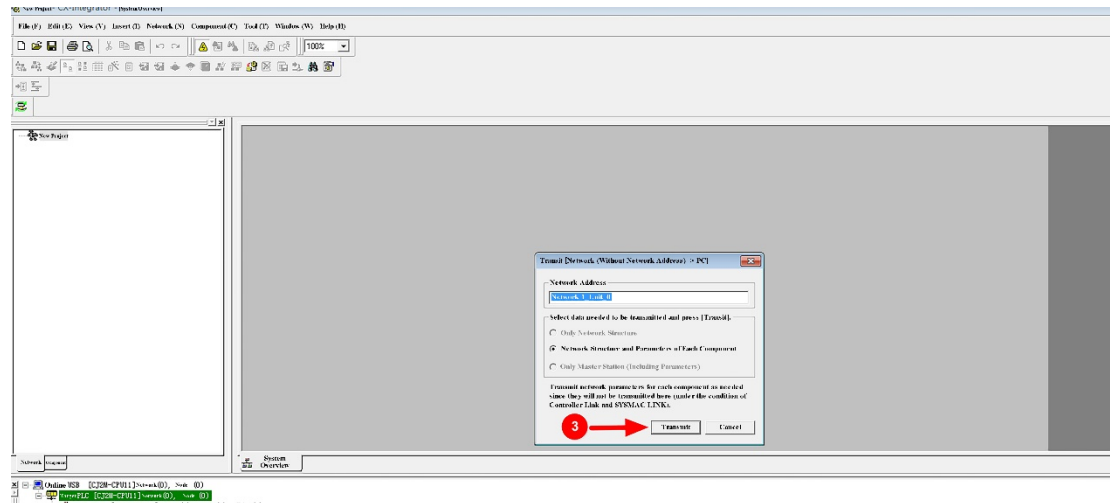

Fig.5-5-5 Automatic Scanning
As for the Auto scanning, Click “Online Working Button”, Double- Click DeviceNet[CJ1W-DRM21] Network (-), Node (1), unit (0), and name the network to confirm the transmission, as shown in Fig.5-5-5. Double click DN-HH00-C0NN, then you can check if OMRON PLC scanned to DN-HH00-C0NN slave station.